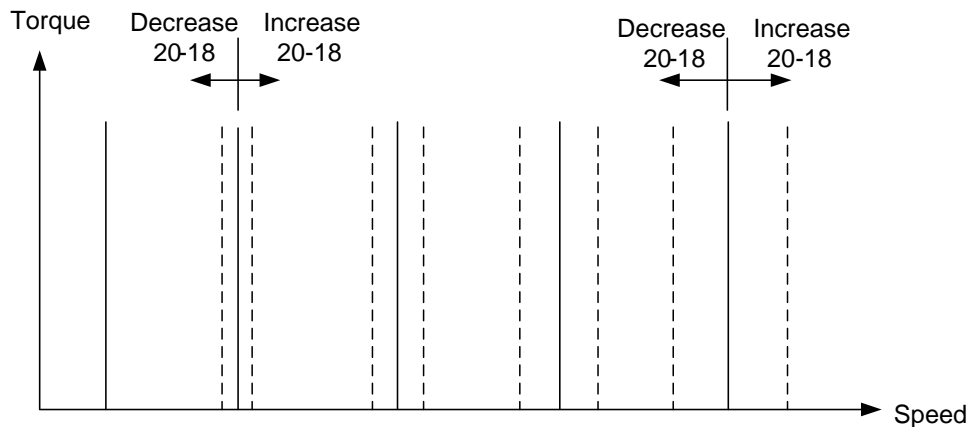

Figure 4.4.116 Effect on the torque-speed curve from 20-17
- Use parameter 20-18 to adjust the torque compensation gain for middle to high speed range. For most general purpose applications it is not necessary to adjust the 20-18. By tuning 20-18 an offset is added to the torque-speed curve. Increase 20-18 when the no-load speed is lower than the frequency reference. Decrease 20-18 when the no-load speed is higher than the frequency reference. The effect on the torque-speed curve from 20-18 is shown as the following figure 4.4.116.